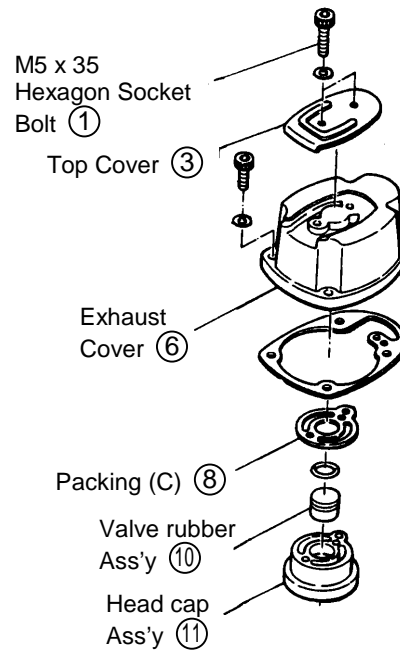

Fig. 14 Disassembly of main body, upper parts
- Take out the two M5 x 35 Hexagon Socket Hd. Bolts ① and remove the Head Cap Ass'y ⑪, Valve Rubber Ass'y ⑩, and Packing (C) ⑧. (see Fig. 14)
(2) Assembly: